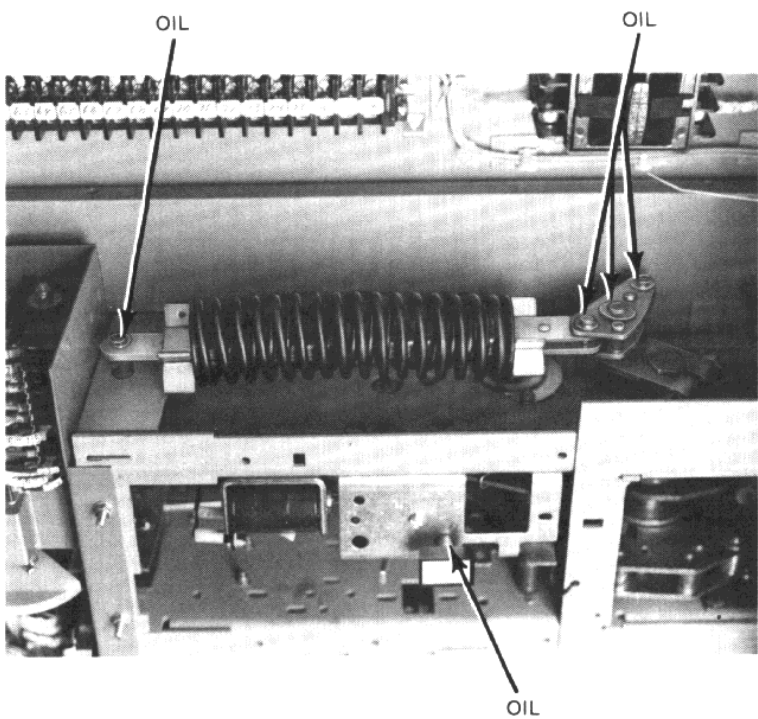

Figure 5
- 1. Linkages designated should be cleaned with trichloroethylene and lubricated lightly with oil. (Figures 5, 6)